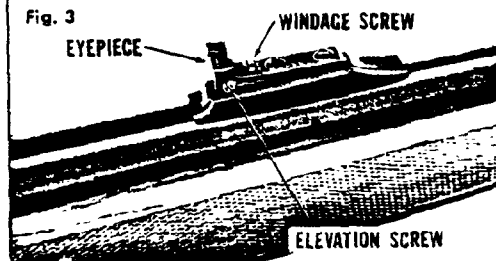

Fig. 3
**SIGHTS** — The Mohawk 600 is factory equipped with open sights (Fig. 3). Windage or elevation adjustment may be made with rear sight. The front sight is "fixed" type, not adjustable for windage or elevation.